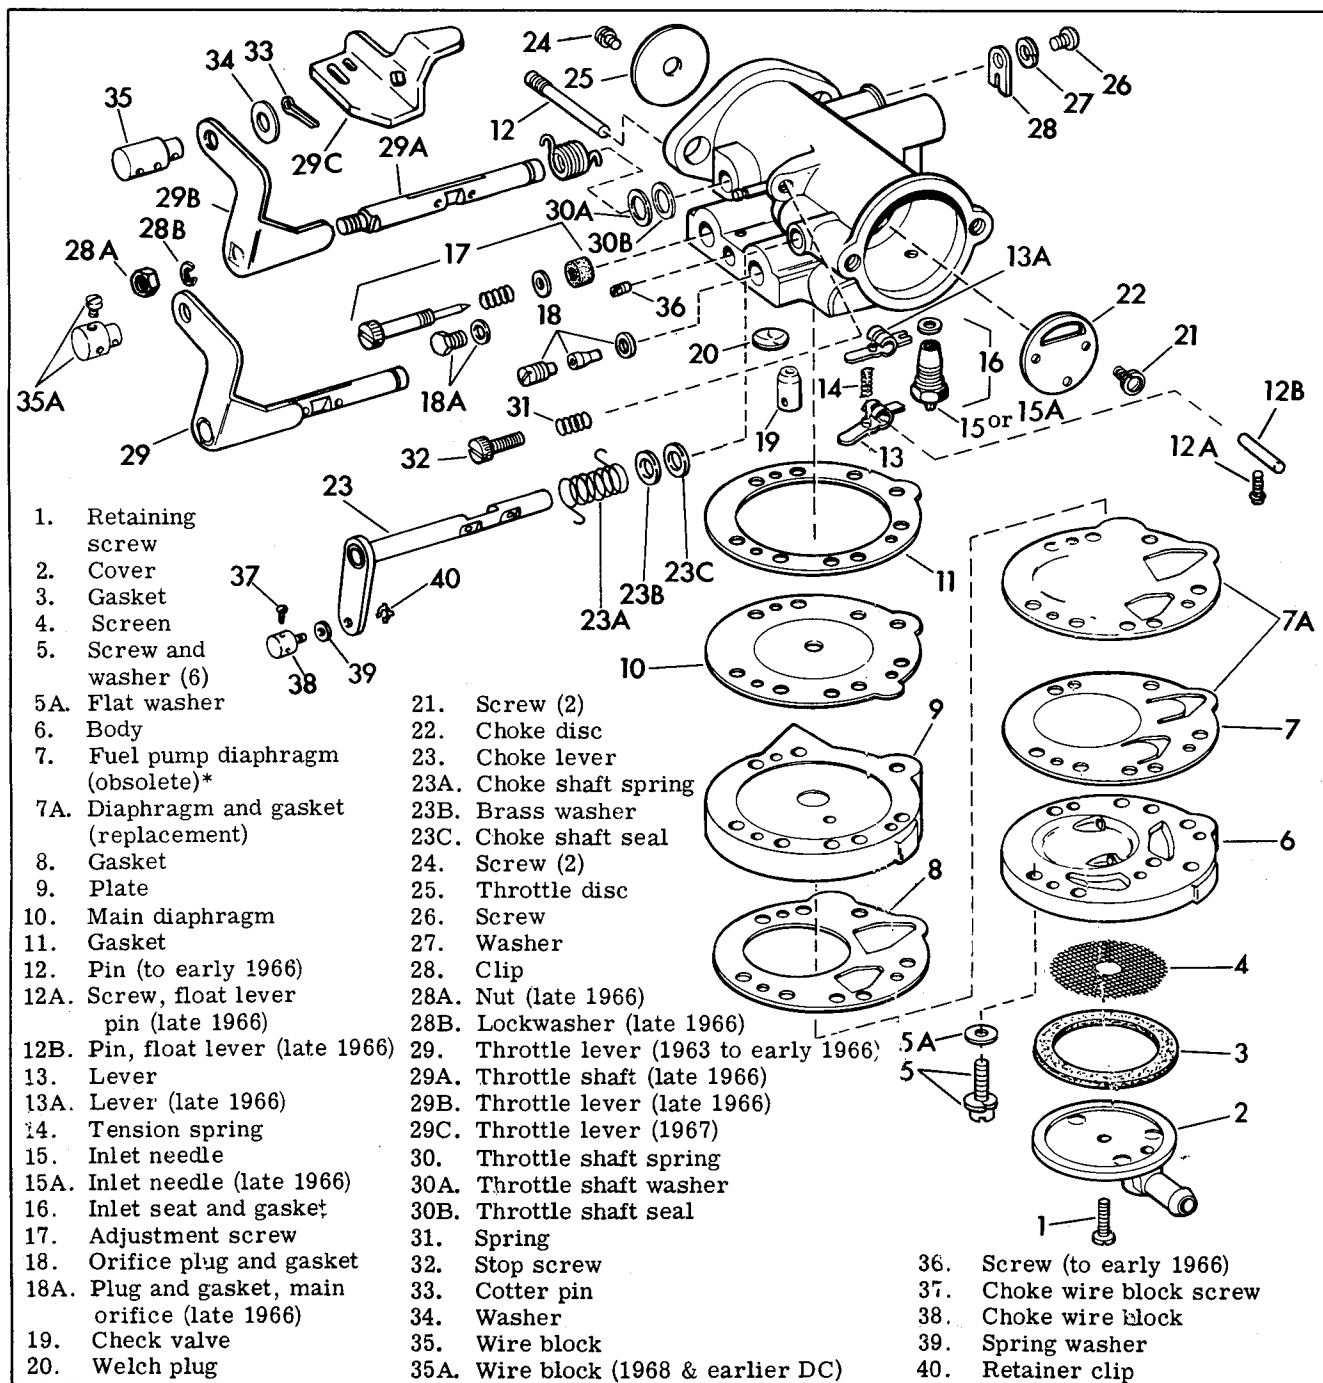

Figure 3F-35. Carburetor - Exploded View
Examine pump body casting for breaks and cracks. Inlet control lever (13, 13A) must rotate freely on the fulcrum pin (12, 12A, 12B) and forked end must engage slot in inlet needle (15, 15A) (See figure 3F-35). Spring (14) should not be stretched or distorted.
### REASSEMBLING CARBURETOR (Fig. 3F-35)